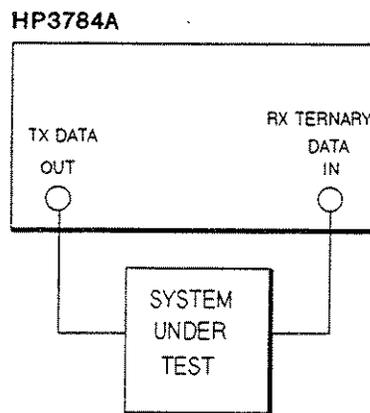

Figure 3-11 Equipment Setup
1. Connect the equipment as shown in Figure 3-11.